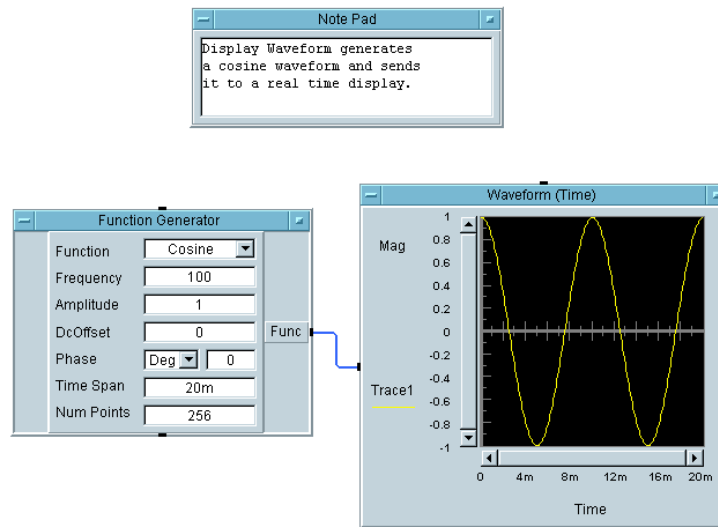

Figure 1-26. Running a Program
- Continuing with the same exercise, click the **Run** button on the toolbar to run the program, or use **Debug** ⇒ **Run**. The program displays a 100 Hz Cosine wave in the **Waveform (Time)** display as shown in Figure 1-26. (Your object might have a different frequency, which is not important to the example.)